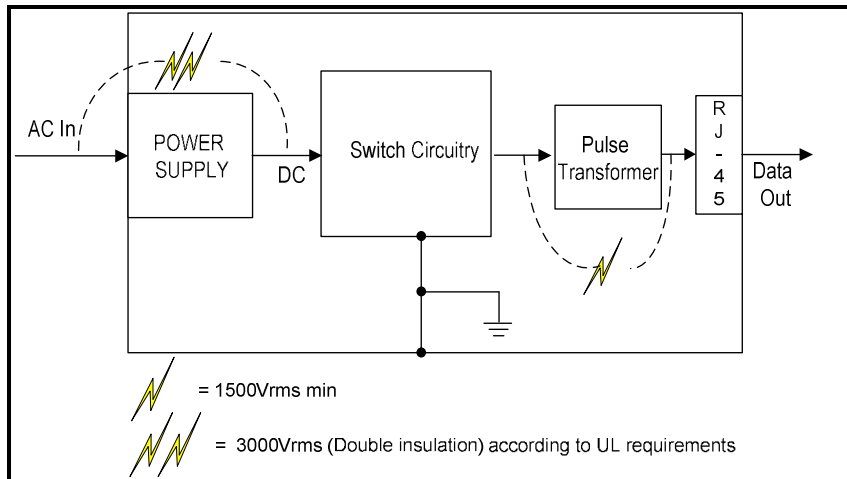

Figure 2: Standard Switch Circuitry
- For a switch with no PoE circuitry: isolation requirements between the physical input terminals and the data connectors are met by using an isolated AC/DC power supply and isolated pulse transformers (see Figure 2).